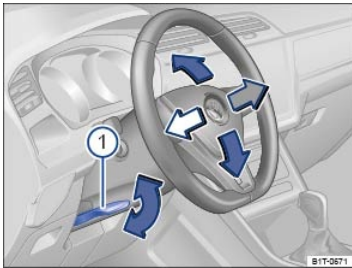

Fig. 71 Manual adjustment for the steering wheel position.
The steering wheel can be adjusted up and down (blue arrows) or forward and back (white and gray arrows) ⇒ Fig. 71.
- Push down on the lever ⇒ Fig. 71①.
- Always pull the lever ⇒ Fig. 71① firmly upward after adjusting the steering wheel so that the steering wheel does not change position suddenly while the vehicle is moving.